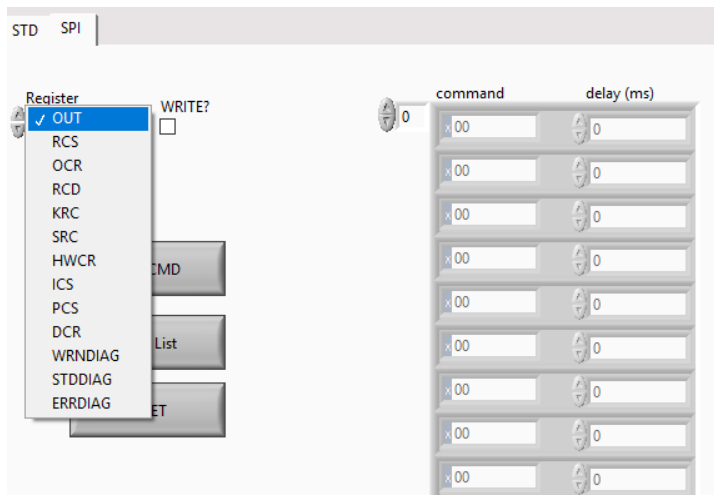

Figure 31 - Select Register OUT
- Switch to SPI view and select register OUT (See Figure 31)